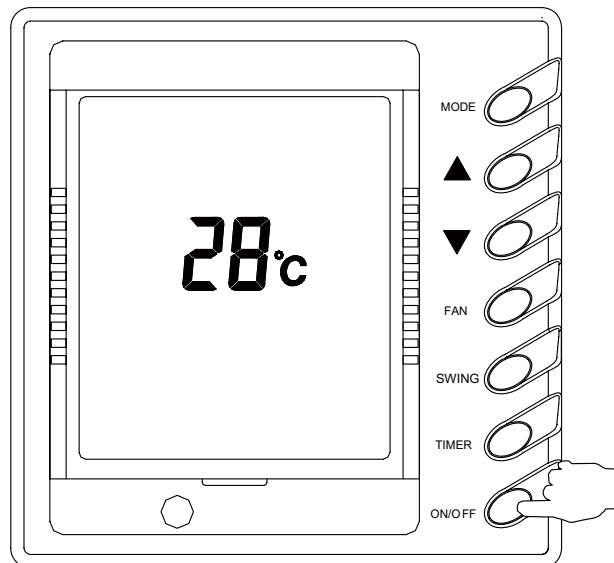

Fig. 9
◆ On/Off (Fig. 9)
- When some error happens, the error code will be shown in the environmental temperature display zone. Fig. 9 indicates that the compressor is under high pressure protection.